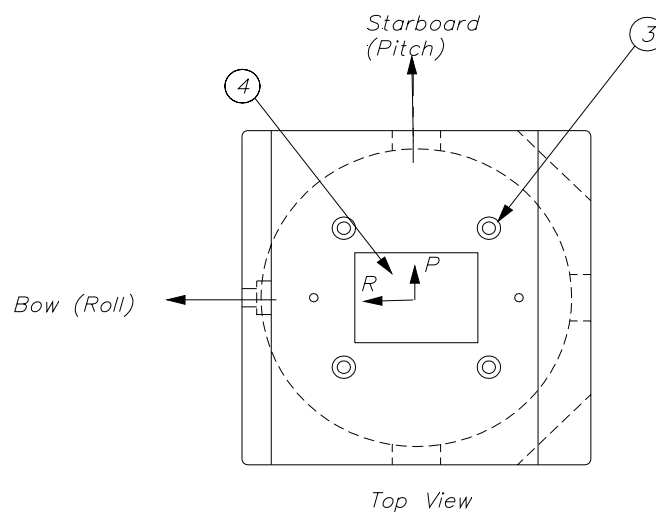

Figure 7 Sticker (4) shall indicate actual mounting orientation of MRU within bracket
- Apply the sticker (4) onto the bracket according to the actual mounting direction of the MRU, as shown in Figure 7. In this way, the actual mounting direction is identified in case the unit is to be exchanged or removed temporarily.